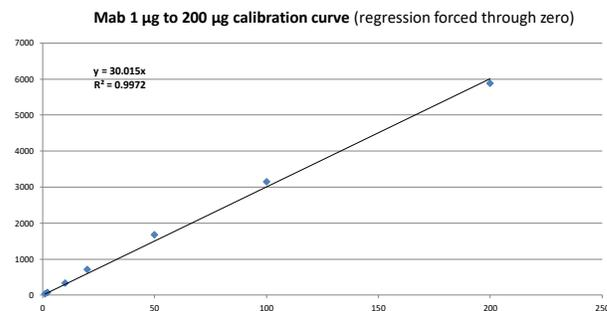

Figure 2. Purified Mab Loading Calibration Curve
- (c) In analytical applications, minimum and maximum load is determined by the linearity of the standard curve as Shown in Figure 2.